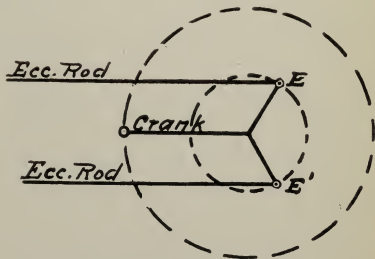

FIGURE 39.
*The Link Reverse* is provided with two eccentrics, one set about 120 degrees ahead of the crank, the other just as far behind, as shown in Fig. 39. If these two eccentrics are so arranged that either one can be made to drive the valve it is evident the engine can be reversed.